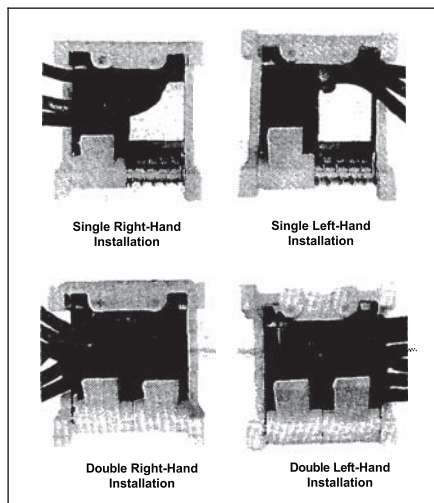

Fig. 2-2. Pigtail Lead Routing for Single and Double Auxiliary Switches.
**Note:** The SPDT switch in a single auxiliary switch is mounted on the right side of the plug-in module. If the plug-in module with pigtail leads is to be installed in the right-hand accessory mounting cavity of the circuit breaker, the pigtail leads must be bent to exit the right side of the circuit breaker (see Fig. 2-2).
When a double auxiliary switch with pigtail leads is installed, the leads from the inner auxiliary switch must go into the wiring trough in the base nearest the line end of the circuit breaker. The leads from the outer auxiliary switch must go into the trough nearest the load end of the circuit breaker. Leads from the inner auxiliary switch must be clipped into the insulating barrier notches (see Fig. 2-2.)